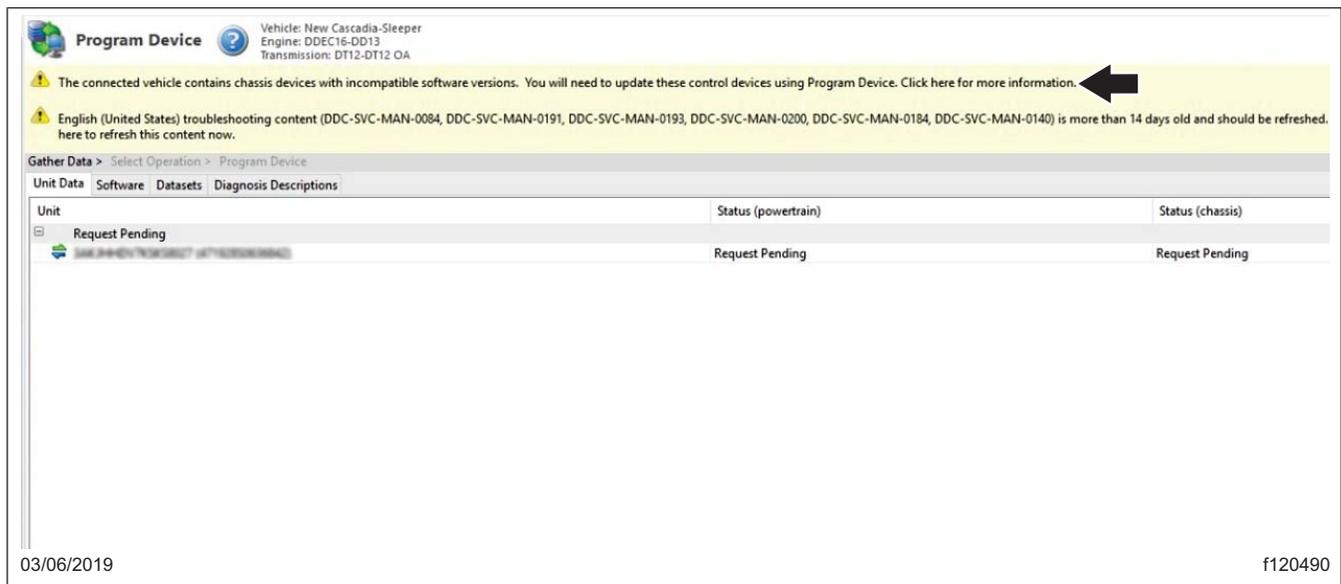

Fig. 11, Clicking on the Banner Message
13. Click on the banner message. See Fig. 11.